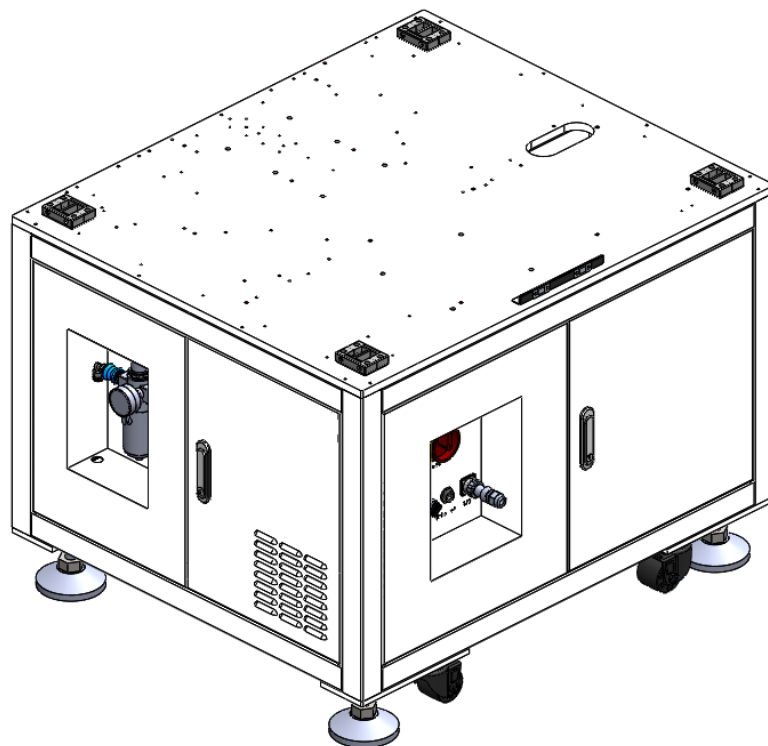

Figure 2-6 Lower rack assembly
**Introduction to equipment comlocation:** Main modules of the equipment (see Figure 2-6) include the feeding bin, vibrating plate, camera of flying trigger, top camera, top light source and four-axis robot, which are organically connected with each other to achieve orderly grabbing, loading into trays and assembling of finished products.